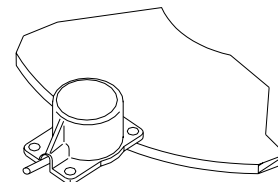

Fig. 12
1. Remove the spring pin from the gas spring ①
2. Remove the bowl gasket ③ and unscrew the 3 screws from the centrifugation chamber top.
3. Remove the bowl-motor gasket ④.
4. Remove lifting-up the centrifugation bowl ⑤.
5.4 Imbalance sensor replacement (see Fig. 12)